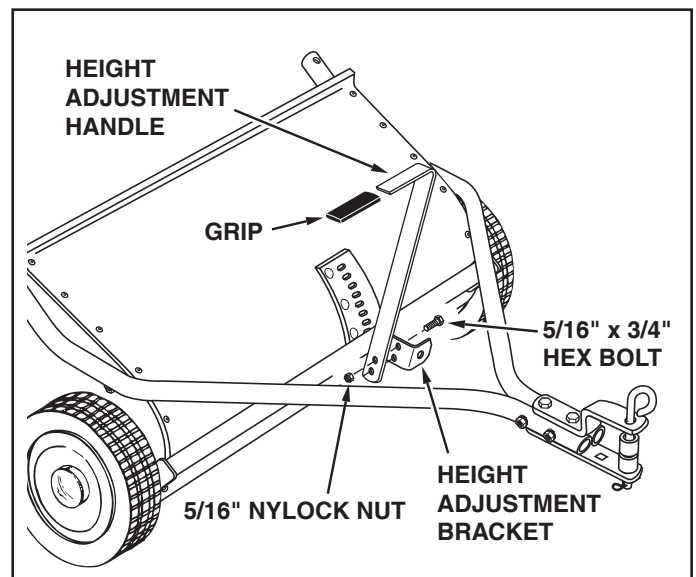

FIGURE 6
- Assemble the height adjustment handle to the height adjust bracket at the front of the sweeper housing. Use two 5/16" x 3/4" hex bolts and 5/16" nylock nuts. See figure 6.
- Assemble the grip onto the end of the height adjustment handle as shown in figure 6.